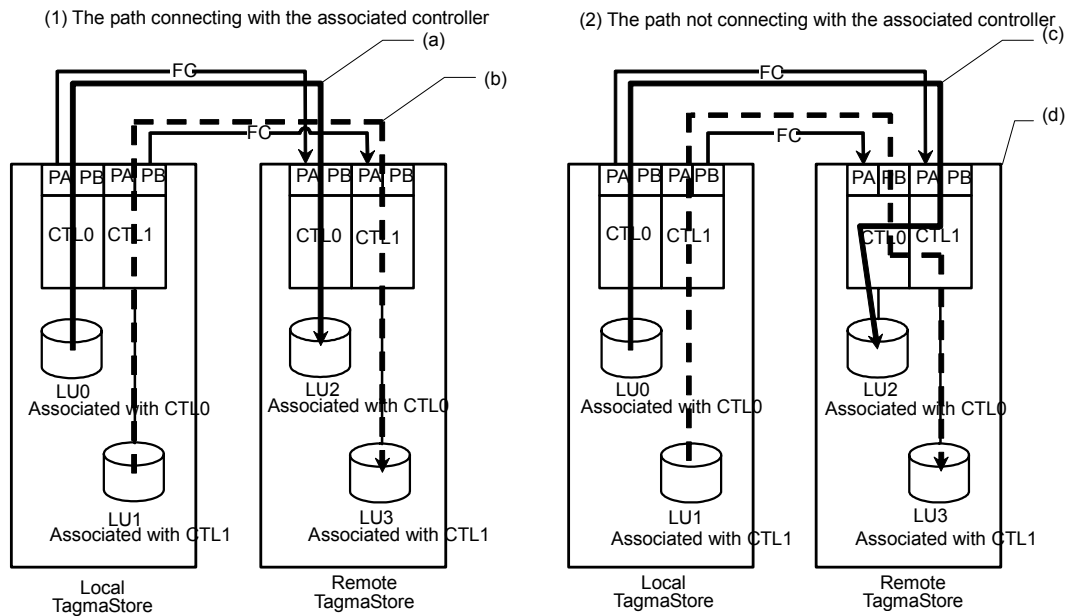

Figure 6.6 Examples of Path Connection
When the LUs on the local side and the remote side are paired, it is necessary to connect the same number of the controllers on the local side and the remote side. Therefore, (1) in Figure 6.6 is recommended.
In (2) in Figure 6.6, because the copy I/O of TrueCopy between CTL0 and CTL1 on the remote side has to be executed, the performance deteriorates.